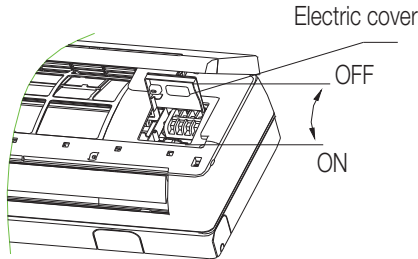

Fig. 12
- Loose the screw at connection lid. (Fig. 12)